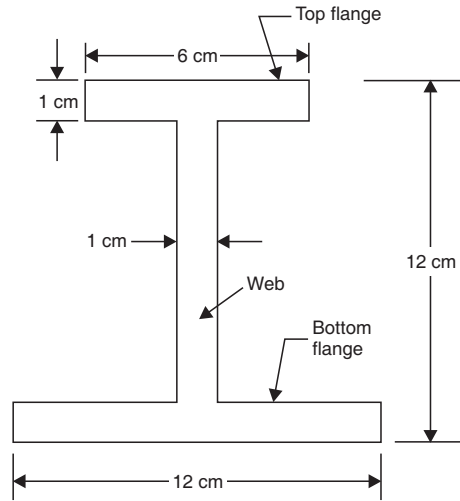

Fig. 5.33
2. Find the moment of inertia about the horizontal axis through the c.g. of the section shown in Fig. 5.33. [Ans.  $I_{xx} = 590.4 \text{ cm}^4$ ]